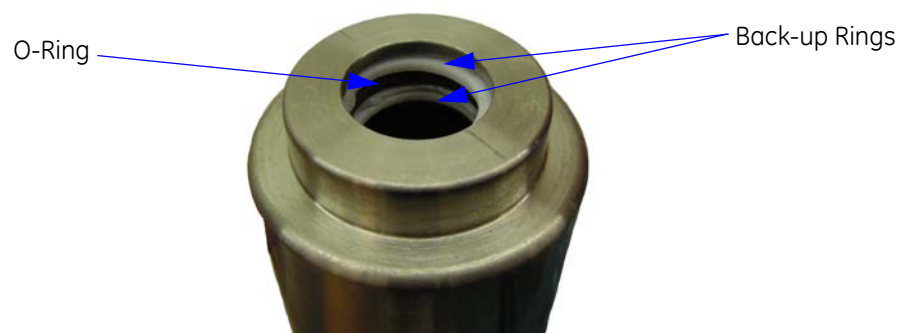

Figure 5-8 Piston Can Inner Seals
- 2 Unscrew the Piston Shaft (item 5) from the Tx Short and Piston Mandrel (item 19) and remove the Inconel Spring (item 22).
- 3 Remove the Piston Can (item 4) and remove any excess oil.
- 4 Remove and discard the O-Ring (item 49) and check the two Back-up Rings (item 36) fitted to the inside the lower end of the Piston Can (item 4), see Figure 5-8. Replace Back-up Rings when damaged.